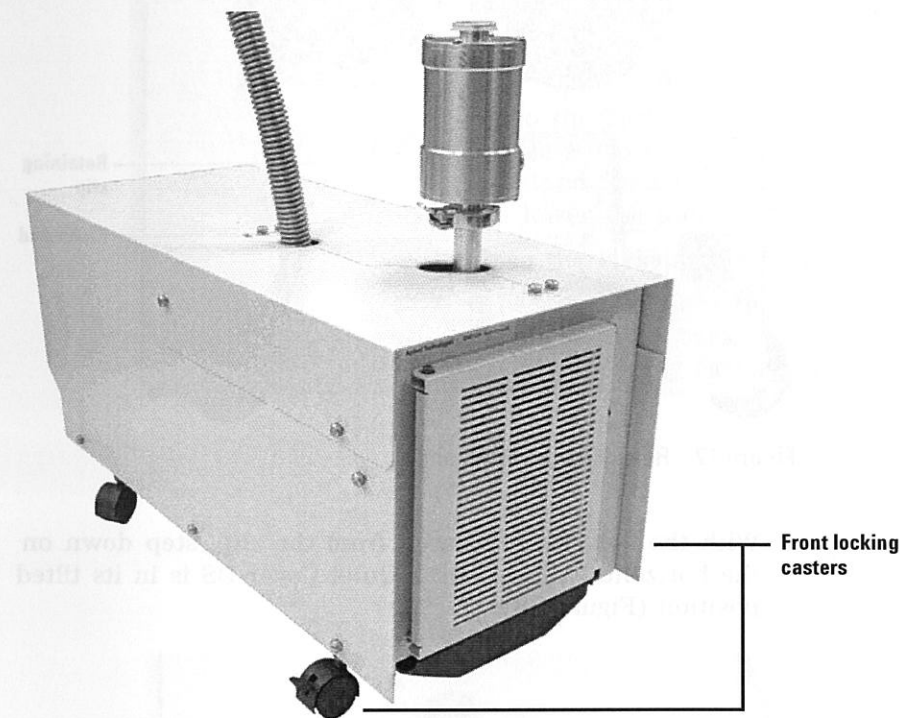

Figure 16 Locking the front casters
- 2 Lock the two front locking casters to secure the Quiet Cover DS (Figure 16).